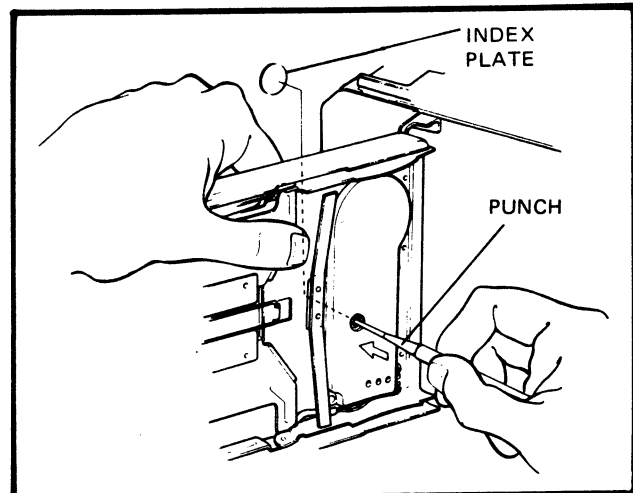

FIG. 5.33 FORCING OUT THE INDEX PLATE
1. Open the rear door and force out the index plate from the knob using a 1/16" drive pin punch (Figure 5-33).